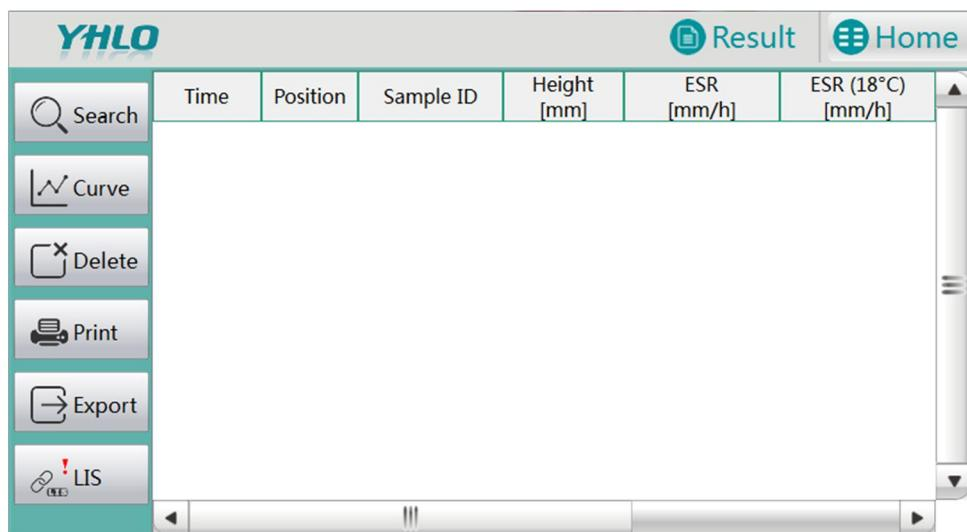

Fig. 4-2-4-1 Result Interface
- **Search:** Click “Search” to enter the search interface. You can search by Sample ID or by date as shown in the picture below (See Fig. 4-2-4-2).
- **Curve:** Select a result and click SED Curve to view the ESR dynamic curve (See Fig. 4-2-4-3).